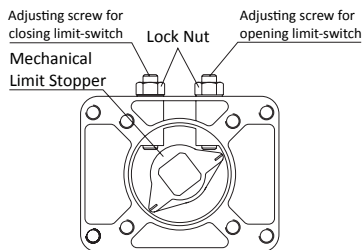

Figure 6
2. Adjustment of mechanical stops (Fig 6 & 7) PLEASE SEE WARNING BELOW BEFORE PROCEEDING!